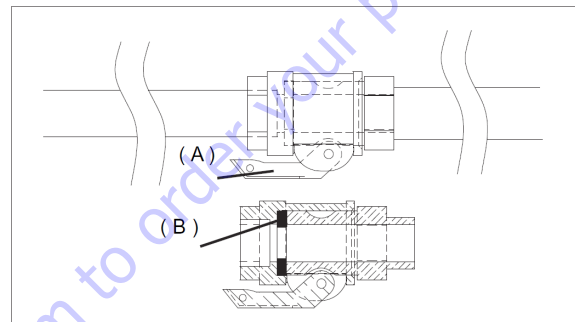

FIG.8
Open the air valve of the jet. Activate and deactivate the cell wheel 3 or 4 times by means of the relative switch (2-3 seconds operation, 2-3 seconds stopped) and then switch on permanently. Regulate the water to obtain the consistency as recommended by the material manufacturer. Close the air valve to the spray gun. Check the material hoses to ensure perfect condition, that couplings are intact and the relative seals are fitted, and pour approx. 3 litres of grout in the first section and then connect them to the delivery manifold (ref.10) and spray jet. Check that the cam levers (A) of the couplings have been tightened correctly and that the seal (B) is fitted as shown in fig.8.